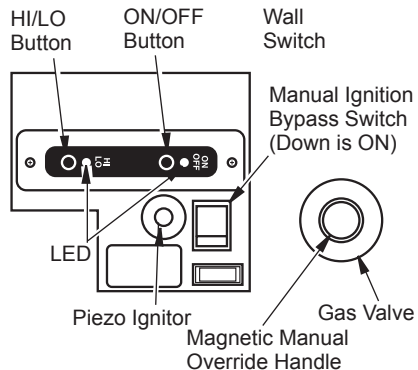

Figure 39 - Control Locations
- Set manual ignition bypass switch on control panel to ON position (manual ignition position). See Figure 39.
- Place the magnetic manual override handle, provided with this unit, on the end of the gas valve stem (see Figure 39).
- While holding the valve handle in the PILOT position, press and release piezo ignitor button (see Figure 39). This will light the pilot. If needed, keep pressing ignitor button until pilot lights.